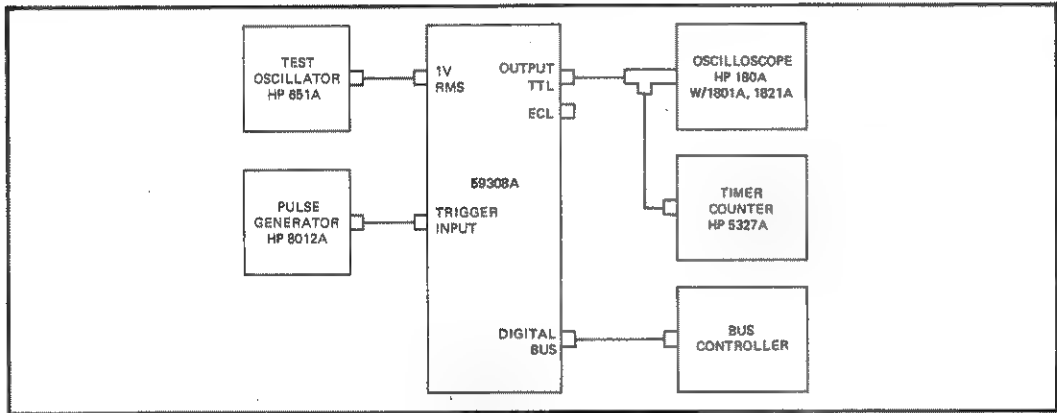

Figure 5-1. Performance Check Test Setup
5-6. Table 5-2 contains procedures for checking the performance of the 59308A. The test setup is shown in Figure 5-1. The first part of the procedure checks the local (front-panel) operation of the 59308A using the internal time base with internal trigger, followed by procedures using external trigger. Then the local operation is checked using an external frequency standard as a time base and an external trigger. The last part of the procedure checks the remote (programmed) operation of the 59308A under the control of an interface bus controller. Included is a triggering test, serial polling test, accumulator output test, and a bus pacer mode test.
2. Connect the equipment in the test setup shown in Figure 5-1. Do not apply power to any of the equipment at this point.